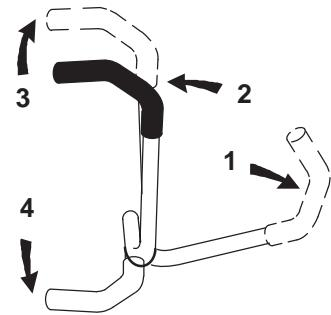

Figure 15
3. To go forward, slowly push the motion control levers forward (Fig. 15).
To go straight, apply equal pressure to both motion control levers (Fig. 15).
To turn, move the motion control lever toward neutral in the direction you want to turn (Fig. 15).
2. To go backward, slowly pull the motion control levers rearward (Fig. 15).
To turn, release pressure on the motion control lever toward the direction you want to turn (Fig. 15).